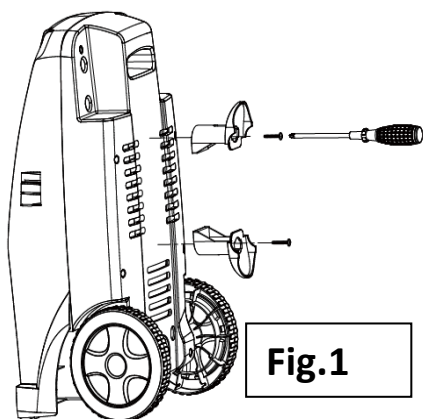

Fig.1
1. ASSEMBLING THE UPPER&LOWER POWER CORD HOLDER(Fig.1)